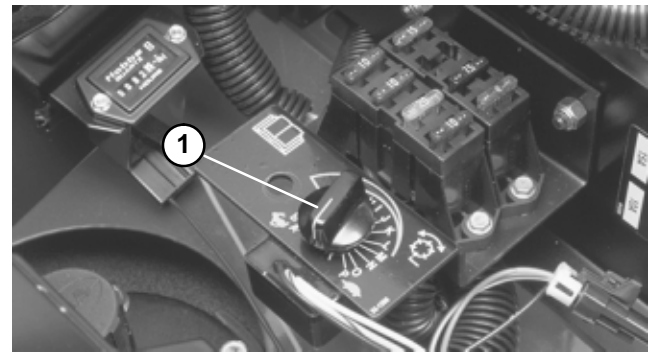

Figure 37
3. Open control cover and turn the H.O.C. selection knob to position "P" (Fig. 37).